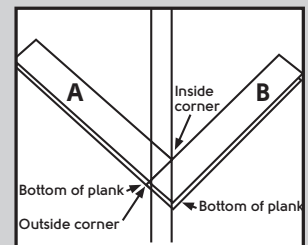

Fig. 5
6. Line up the outside corner edge of the "A" plank with the inside corner on the opposite line position (Fig 5).